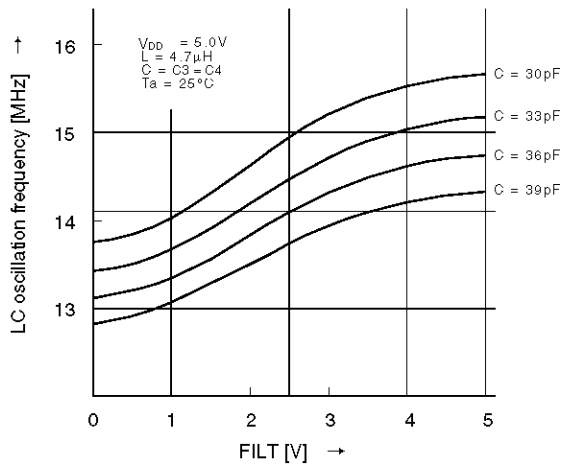

Figure 11 FILT-LC Oscillation Frequency (1)
* See Figures 11 and 12 for the LC oscillation frequency characteristics.